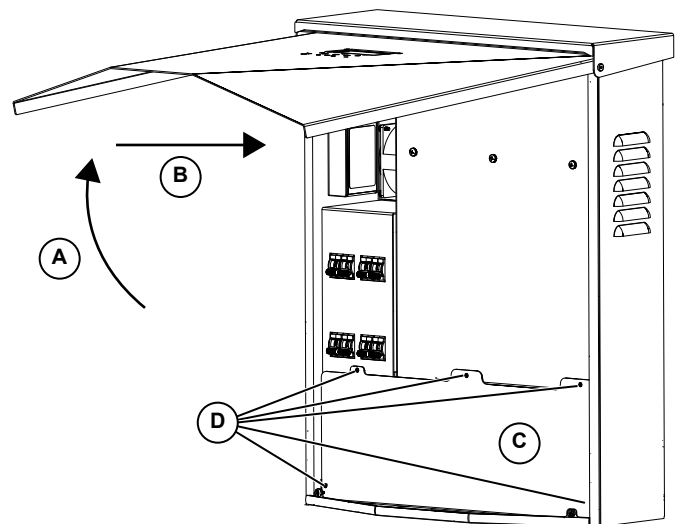

Figure 5-2. Wiring Compartment
4. See Figure 5-2. Open inverter front cover by lifting the bottom to horizontal (A) and pushing inward (B).
5. Locate wiring compartment cover (C).
6. Remove five M4X10 screws (D) and wiring compartment cover.